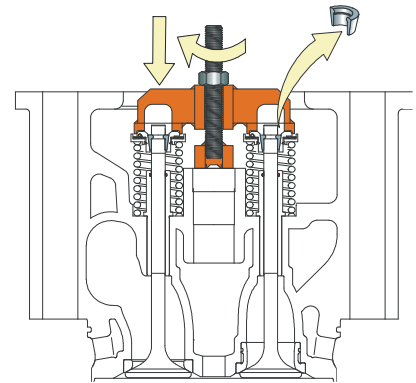

Fig. 2 Dismounting of conical clamping piece
2. Press and lower the spring by turning the nut of the tool as shown in fig 2.